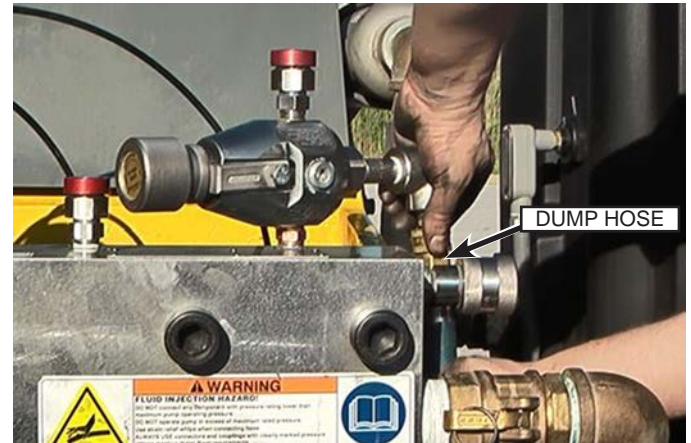

Fig. 110: Dump Hose Removal
1. Remove the dump hose (Fig. 110) from the bypass valve.